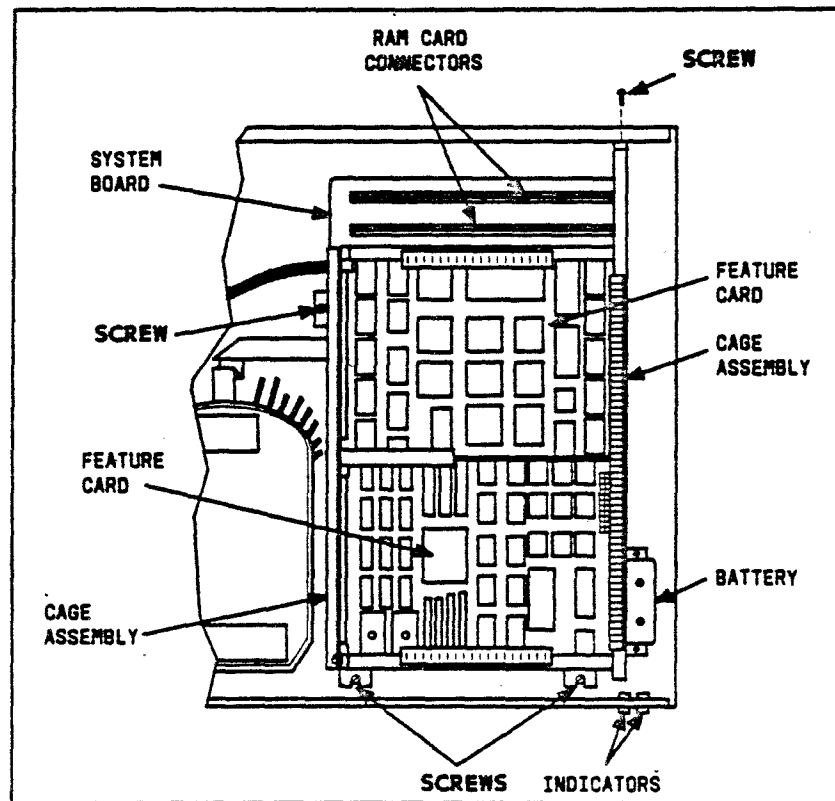

Figure 4-9. Installing Feature Card Cage Assembly
1. Carefully position the cage assembly over the system board. (See Figure 4-9.) Align the back plane connectors and brackets.